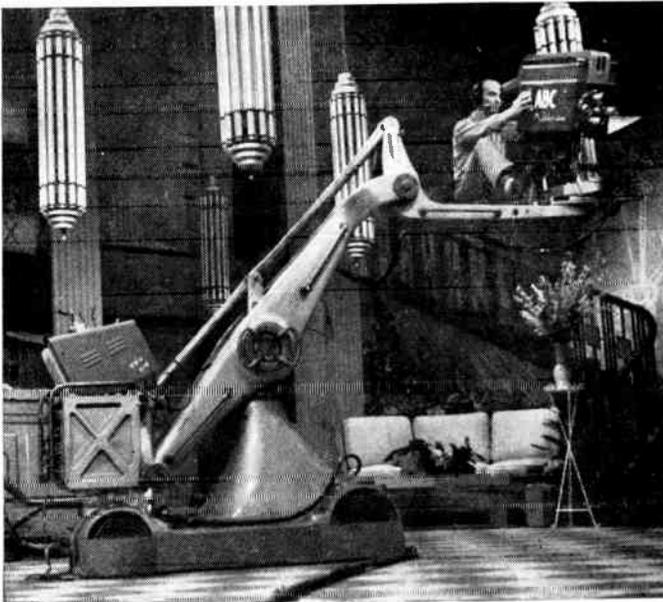

Fig. 4-18. Houston crane in use at ABC-TV, New York.
*The Houston-Fearless counterweighted crane.* The Houston crane (Fig. 4-18) is standard motion-picture equipment which has been